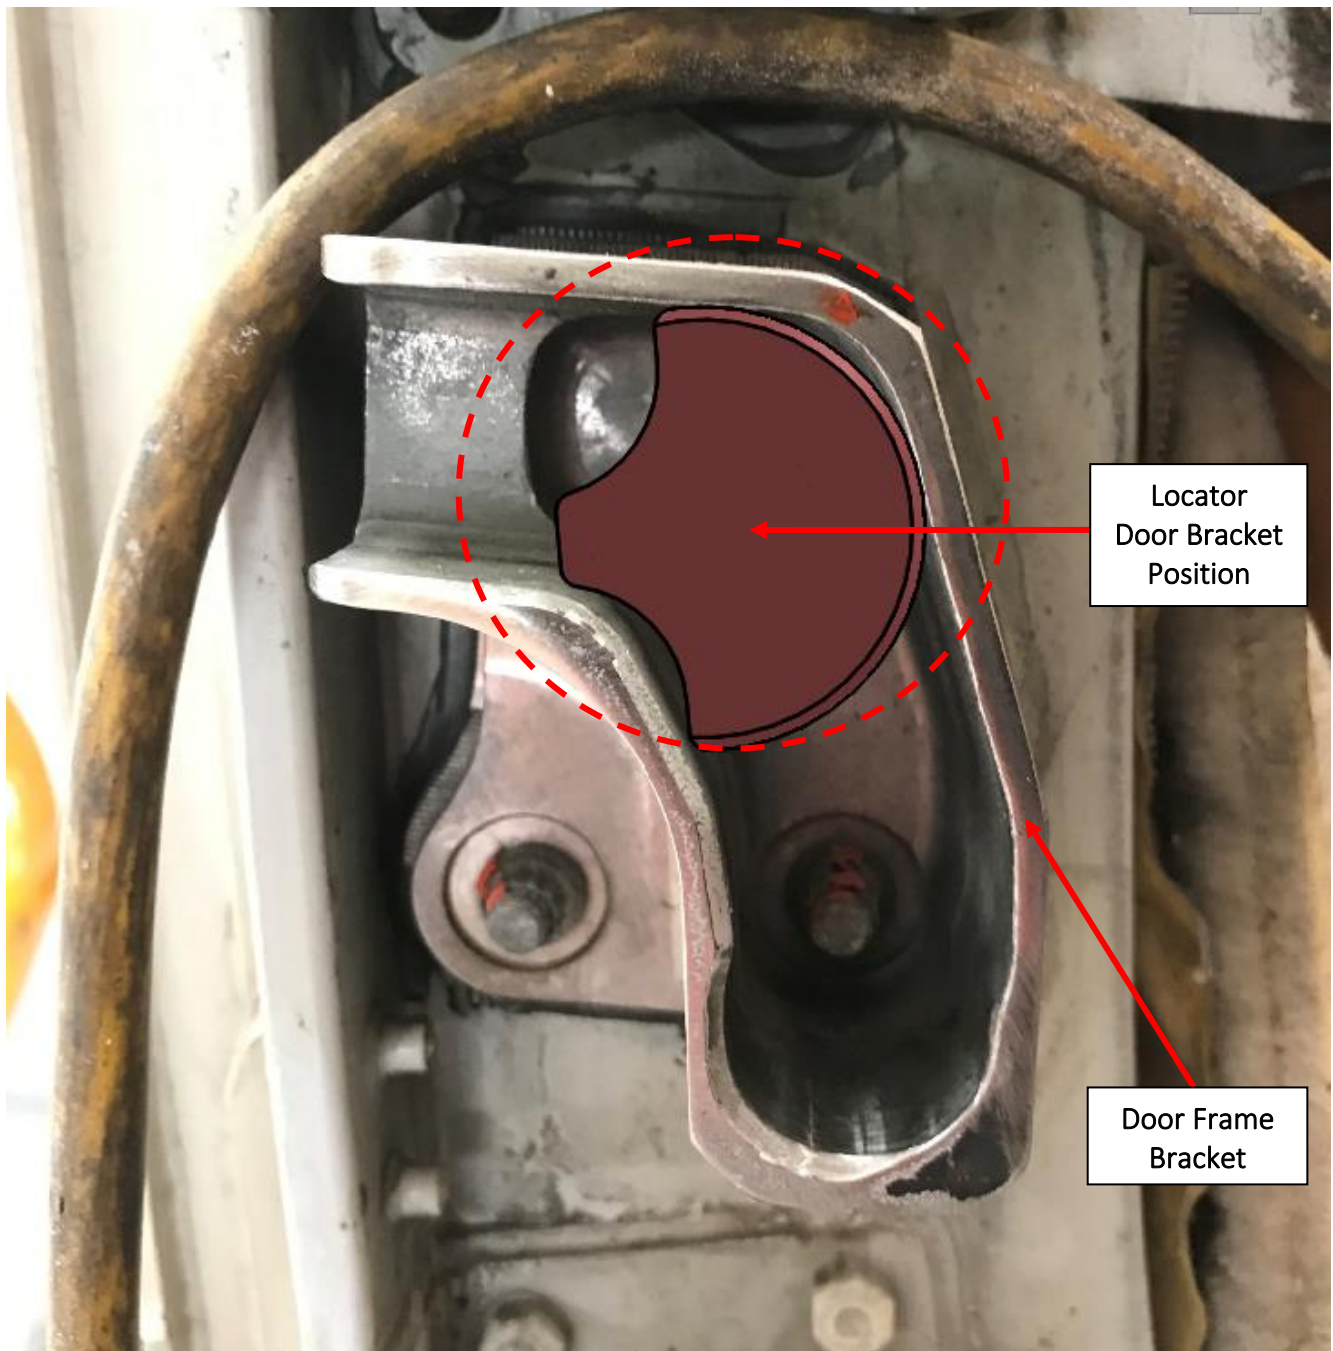

Figure 15 Bottom Door Bracket.
4.1.18 The bottom fixed locator fits into the door bracket area highlighted in figure 15.